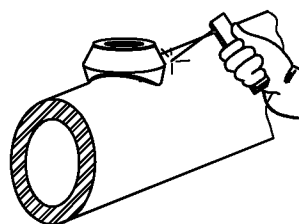

Fig. 6
- D. Tack weld the base joint in four points, preferably halfway between the crotch and skirt sections of the fitting (see Fig. 6).